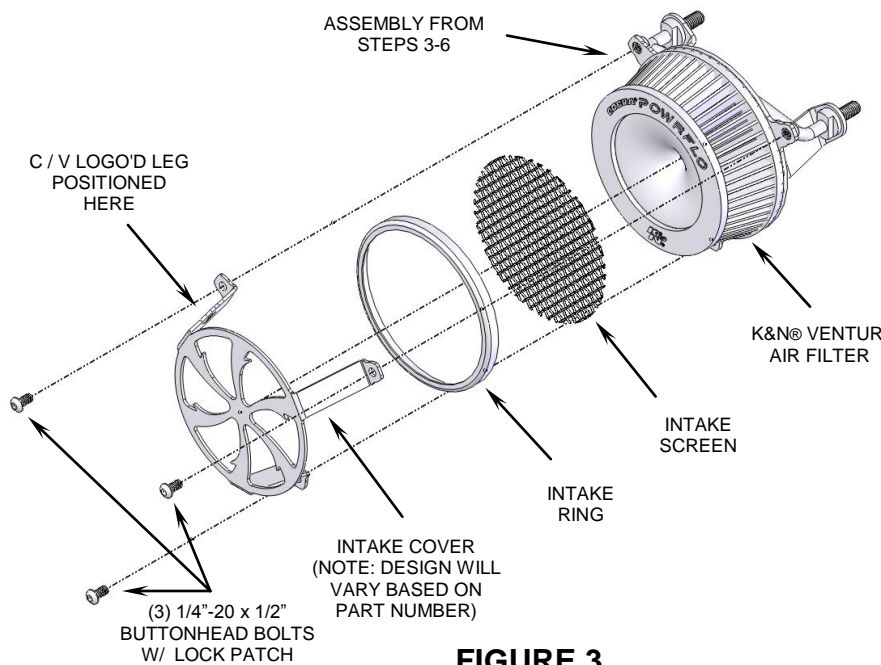

FIGURE 3
8. Place the supplied K&N® filter onto the velocity stack. Insert the round intake screen into the chrome ring so the screen sits inside the edge of the ring. Place the ring and screen between the legs of the naked chrome intake cover as shown in Figure 3.
9. Place the naked intake cover, ring and screen assembled in Step 8, over the air filter and align each leg to the base mounting plate threaded holes. Be sure screen sits at a 45° angle to the bottom leg, and C/V logo'd leg is at the upper left position. Insert the (3) supplied 1/4"-20 x 1/2" buttonhead bolts through the intake cover and into the base mounting plate, see Figure 3. Double check all parts are aligned properly and tighten securely.